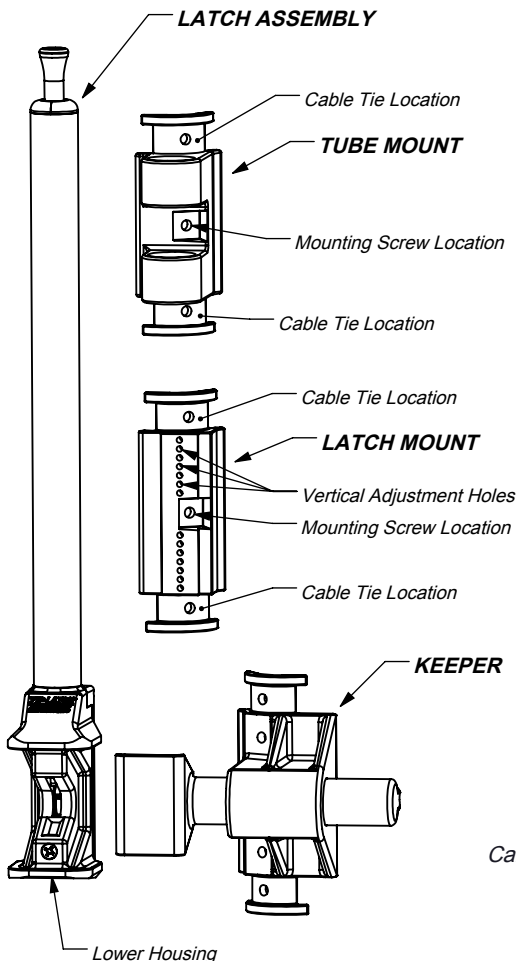
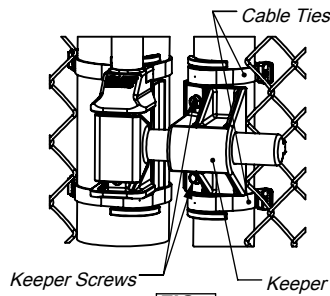
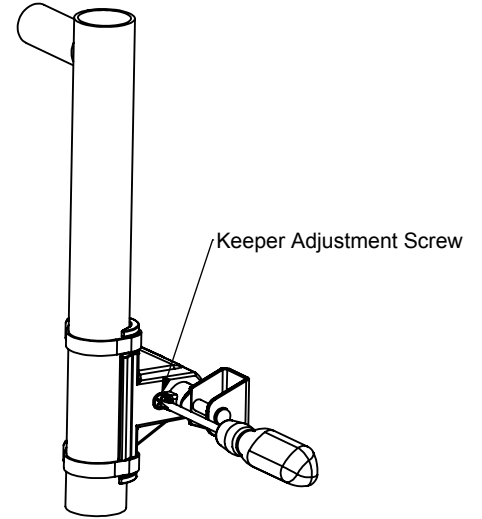

FIG. 2
FIG. 5
FIG. 6
PARTS LIST (included, Fig. 2):
Step 8: Check to make sure the Tube Mount and Latch Mount are still aligned with the Marks from Step 6. Using (2) Mounting Screws, secure the Tube Mount and the Latch Mount. The screw hole locations are shown in Fig. 2.
Step 10: With the Gate closed, position Keeper and align with Latch Body (Fig. 5). Secure Keeper Assembly to Gate with (2) Cable Ties and (2) Mounting Screws. The screw hole locations are shown in Fig. 2.
1. Check for proper operation. If any adjustments are needed, use the Horizontal Adjustment Screw located in the Keeper (Fig. 6) (Use ONLY Hand Screwdriver. DO NOT use a Powered Screwdriver), and / or the Vertical Adjustment holes located in the Latch Mount (Fig. 2).